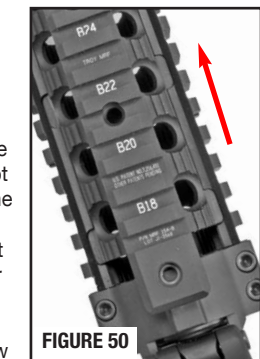

FIGURE 50
- Line up "teeth" and lift in bottom rail out of assembly (FIGURES 50 and 51).